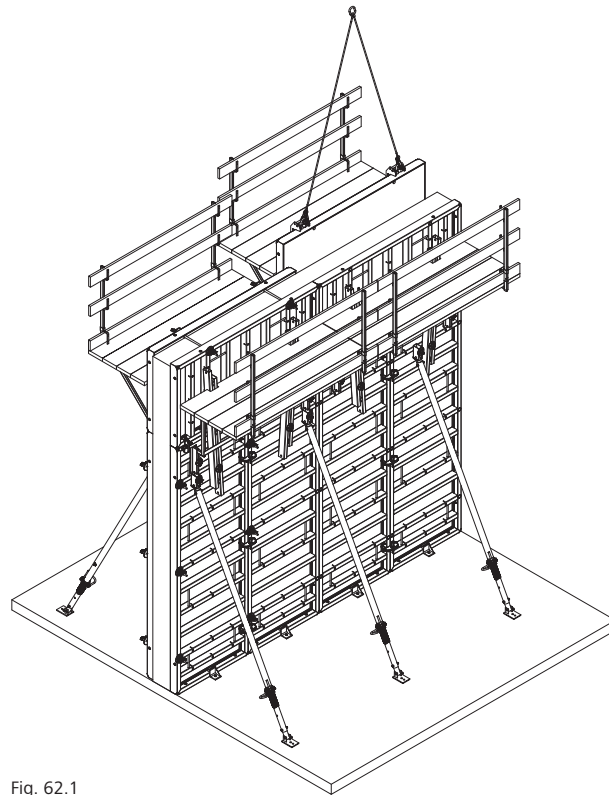

Fig. 62.1
5. Lift gang and move to next pour (bracing required), temporary storage, or disassembly area (Fig. 62.1).